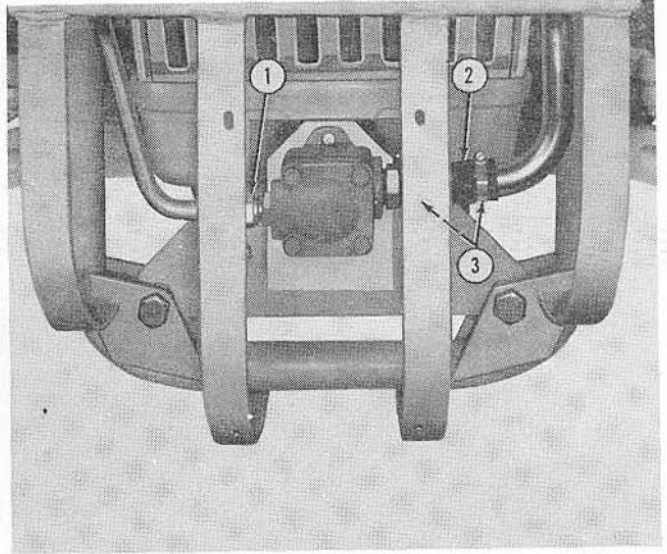

Figure 8
2. Disconnect the hydraulic lines from the pump, as shown in Figure 8 at (1) and (3).